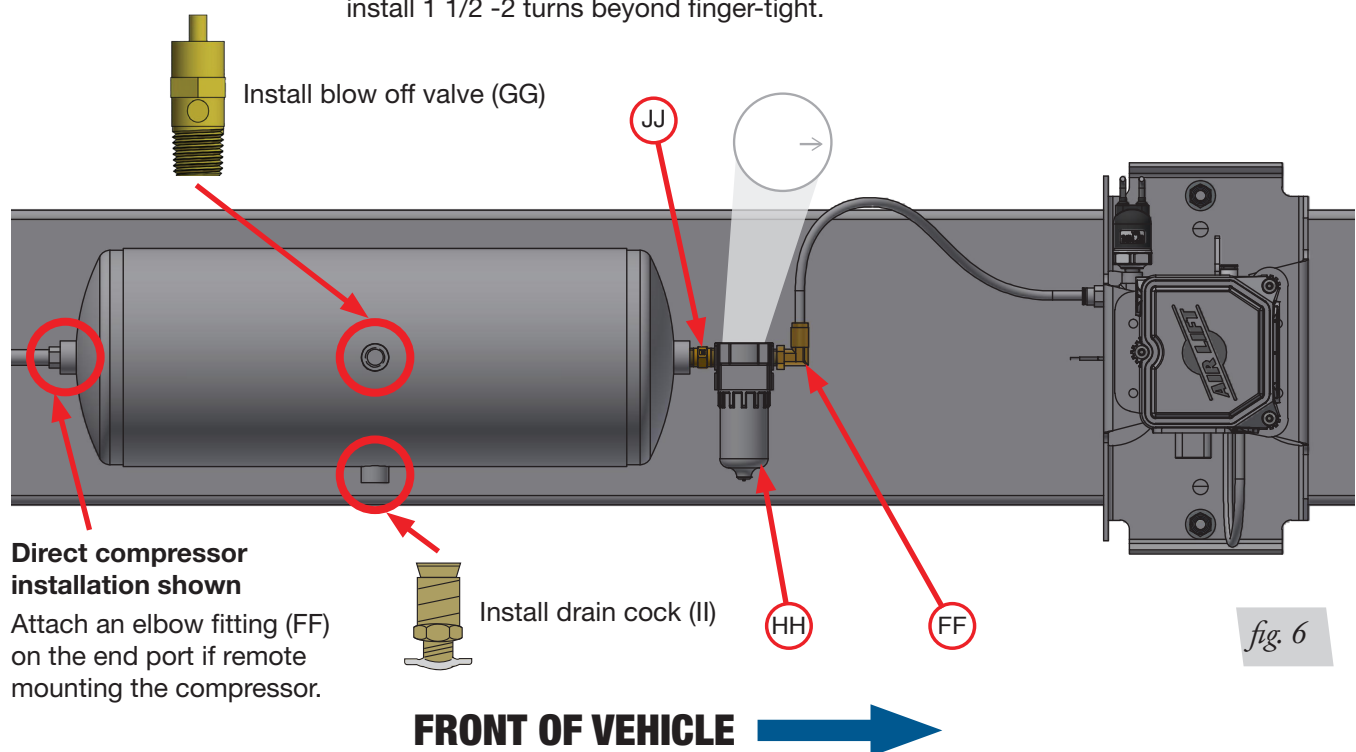

fig. 6
1. Know which direction you plan to mount the tank with respect to the other components before starting to install the necessary fittings for proper setup (Figs. 6 & 12).
2. Install the drain cock (II) into the tank port that is meant to point to the ground (Fig. 6). Apply tape or pipe dope and install 1 1/2-2 turns beyond finger-tight.
3. Install the blow off valve (GG) across the belly of the tank using one of the other (2) available ports and tighten 1 1/2 turns beyond finger-tight (Fig. 6).
4. Install a 1/4" MNPT X 1/4" PTC elbow fitting (FF) to the last of the belly ports (Fig. 6). This will be used for manual fill port later in this manual.
5. Install a 1/4" hex nipple (JJ) from the tank to the filter (HH) and then install an elbow fitting (FF) from the filter to the end port facing the manifold/EZ Mount assembly (Fig. 6). Apply tape or pipe dope and install 1 1/2-2 turns beyond finger-tight. Ensure the arrow on top of the filter points to the EZ Mount.
6. If the compressor leader line cannot reach the tank so it can be directly installed, install an elbow fitting (FF) on the last end port (Fig. 6). Apply tape or pipe dope and install 1 1/2 -2 turns beyond finger-tight.